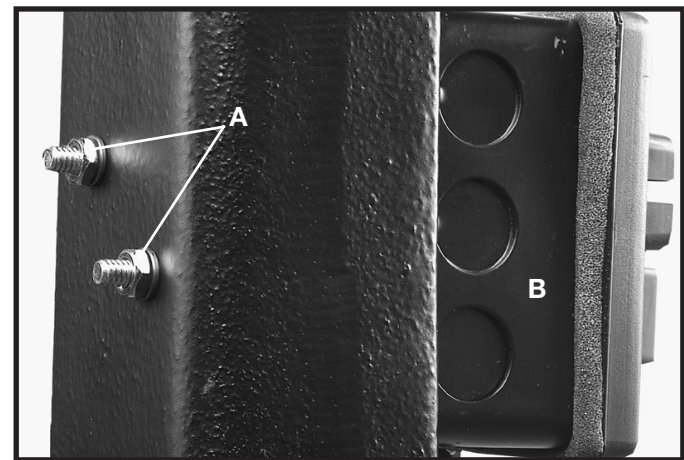

Fig. 11
5. Fasten the switch box (B) to the band saw arm using two hex nuts and lockwashers (A) Fig. 11, which were removed in **STEP 3**.